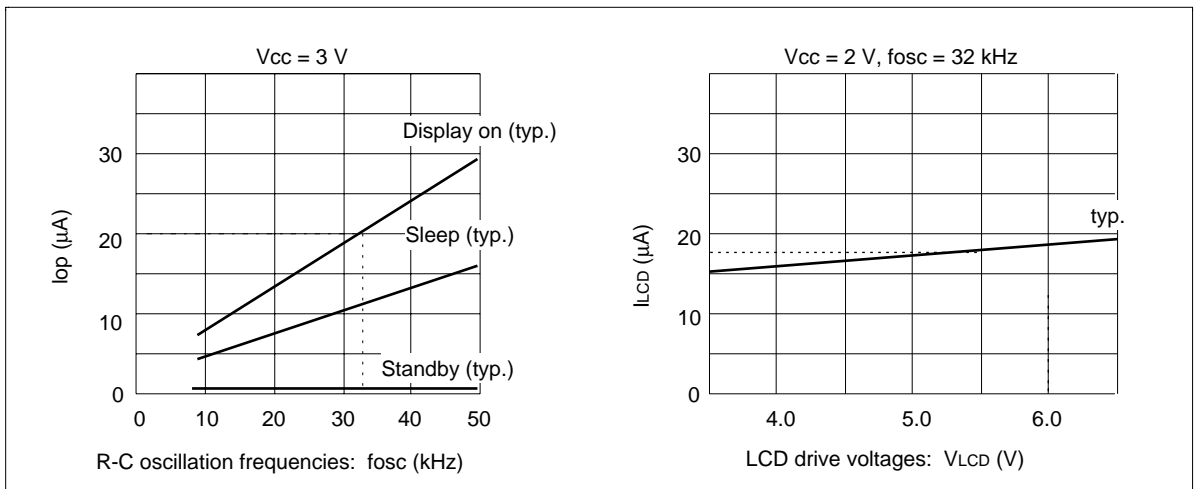

Figure 37 Relationship between the Operation Frequency and Current Consumption
6. The following shows the relationship between the operation frequency and current consumption (figure 37).